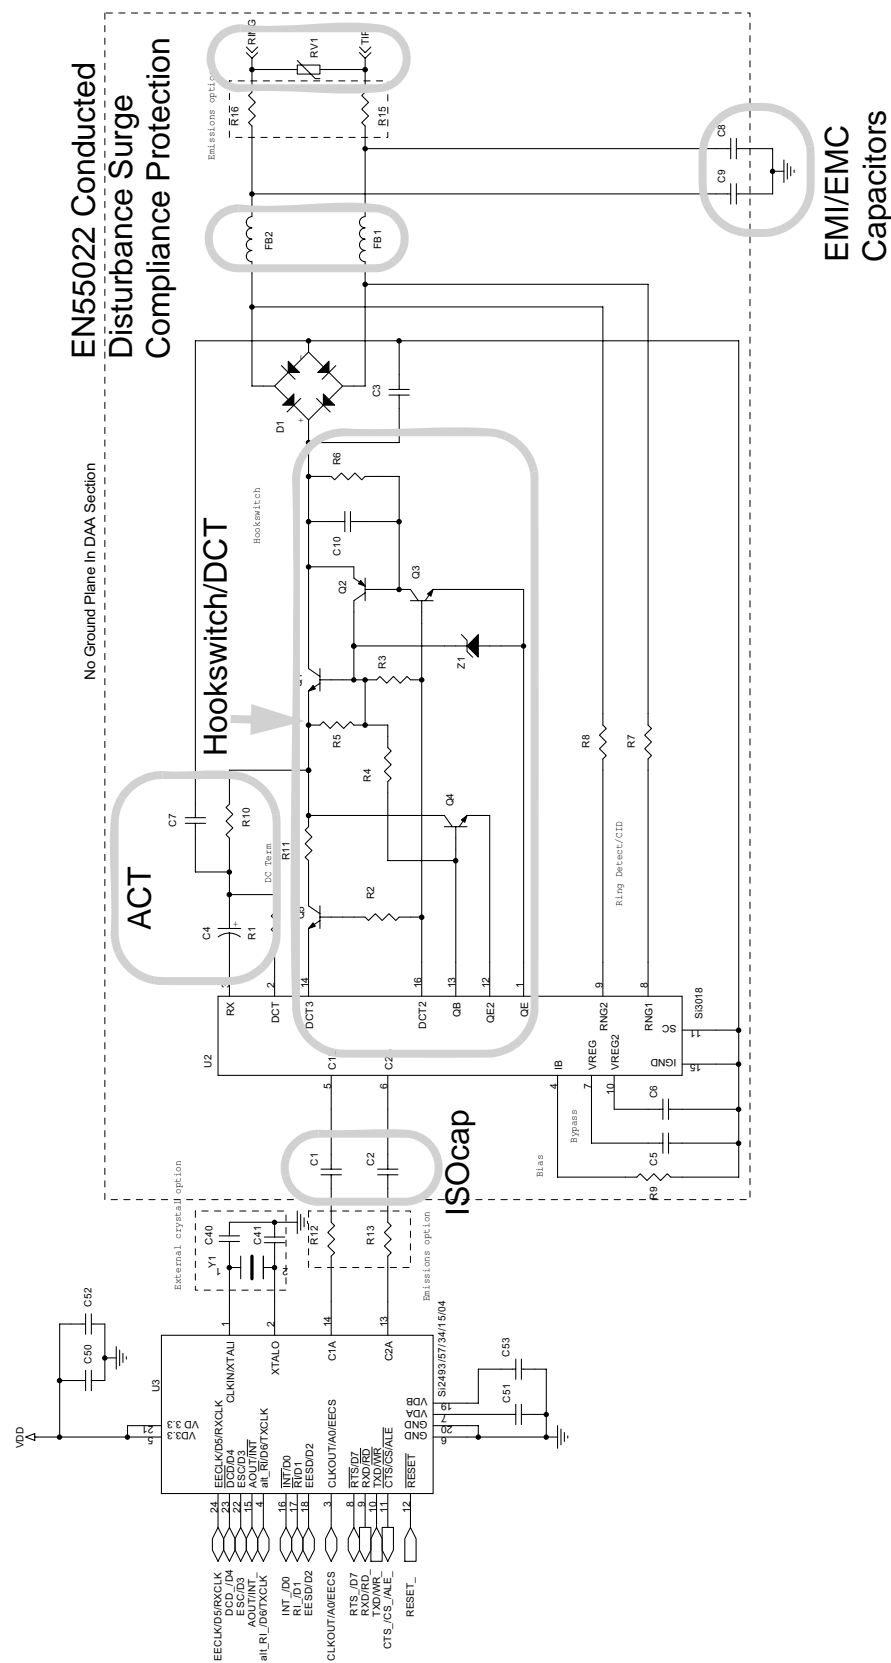

Figure 2. Si3018/10 Component Functions
Figure 2 on page 10 clearly shows that in spite of the significant internal complexity of the chip, the external support circuitry is very simple. The following section describes the function and use of the pins and some important considerations for the selection and placement of components.
The Si3018/10 DAA or line-side device, contains an ADC, a DAC, control circuitry, and an isolation capacitor interface. The Si3018/10 and surrounding circuitry provide all functionality for telephone line interface requirement compliance including a full-wave bridge, hookswitch, dc termination, ac termination, ring detect, loop voltage/current monitoring, and call progress monitoring. A schematic of the Si3018/10 circuitry with the component functions identified is shown in Figure 2. Additionally, the Si3018/10 external circuitry is largely responsible for EMI, EMC, safety, and surge performance.
The hookswitch and dc termination circuitry are shown in Figure 2 on page 10. Q1, Q2, Q3, Q4, R5, R6, R7, R8, R15, R16, R17, R19, and R24 perform the hookswitch function. The on-hook/off-hook condition of the modem is controlled by Si3018/10 pins 13 (QB) and 1 (QE).